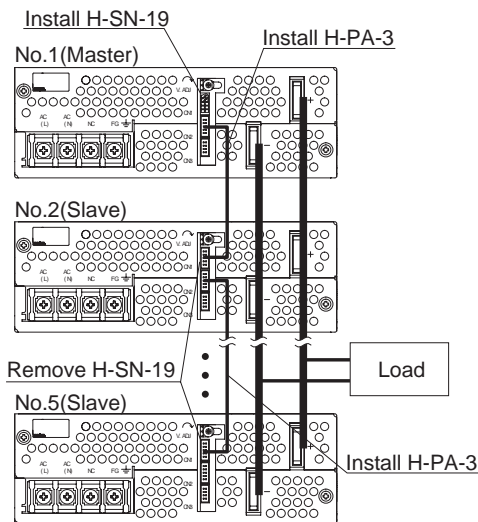

Fig.4.3 Example of parallel connection (PBA1500F)
■You can use the power supplies in parallel operation by connecting units as shown in Fig.4.3.